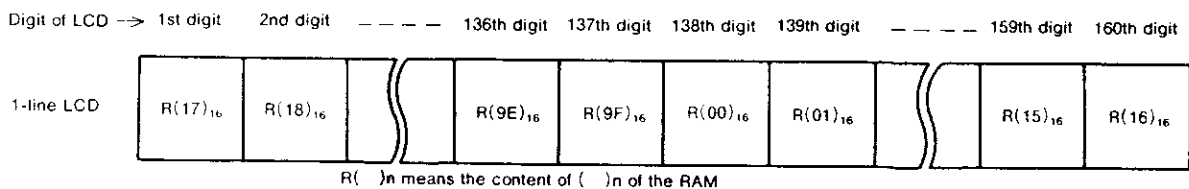

Fig.3 Example of display address
When the content of the display start address register is (17)16, the liquid crystal display will be as Fig. 3.